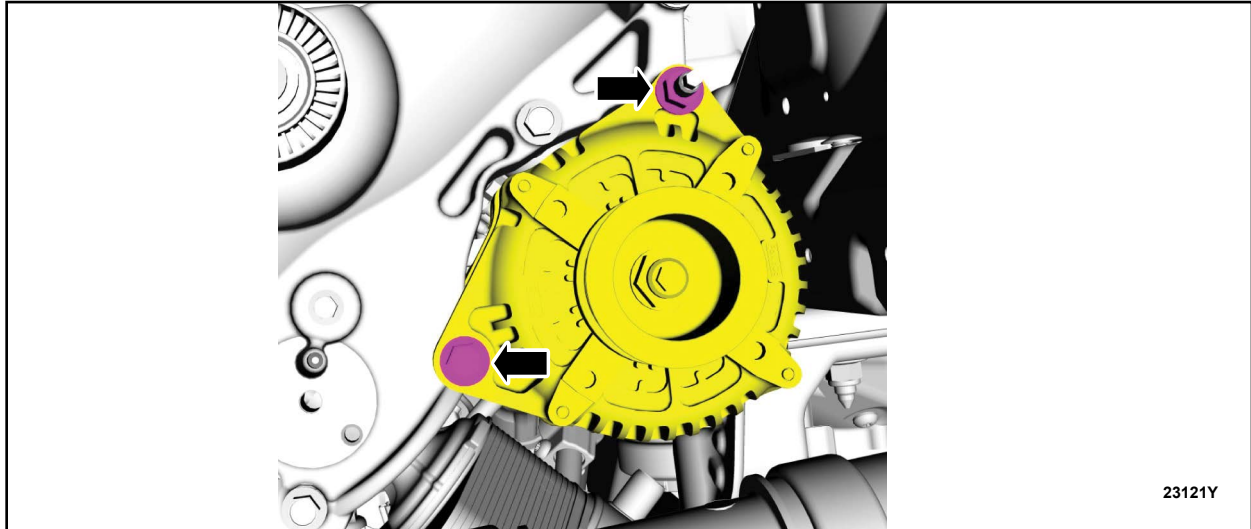

FIGURE 34
16. Remove the fasteners and position the generator aside. See Figure 34.